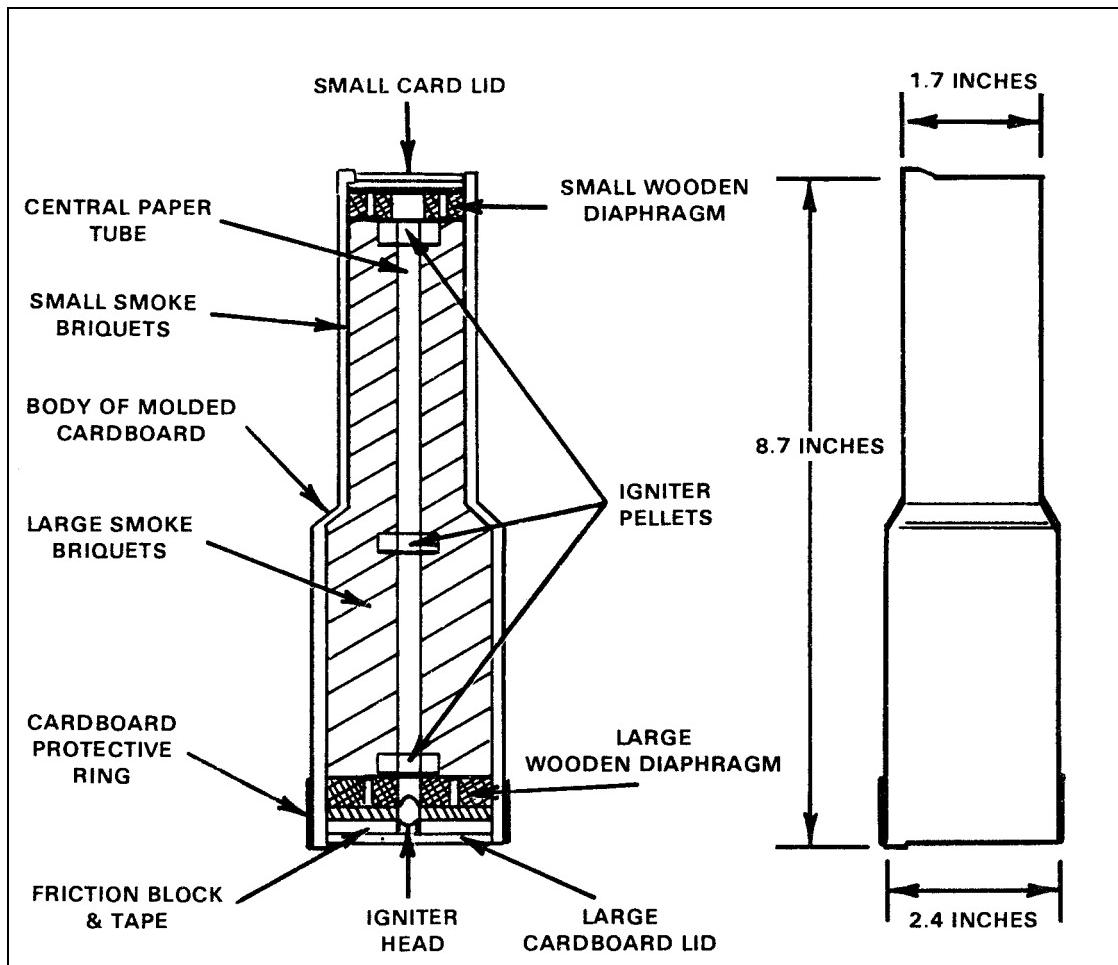

Figure D-7. RDG-1 smoke grenade.
- Type: Hand, smoke. (Figure D-7)